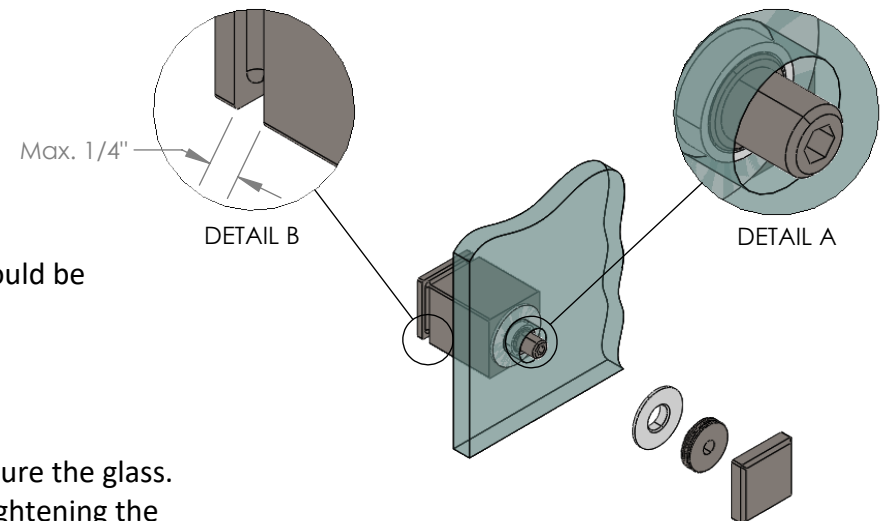

FIG. 3
- To adjust the vertical angle of the glass, remove Parts 7, 6, and 5, then use the Allen key to turn Part 3. By tightening or loosening Part 3, the distance between glass and wall decreases or increases respectively. When turning Part 3, ensure that the gap between Parts 1 and 2 is less than 1/4" (6 mm) as shown in FIG. 3 Detail B.